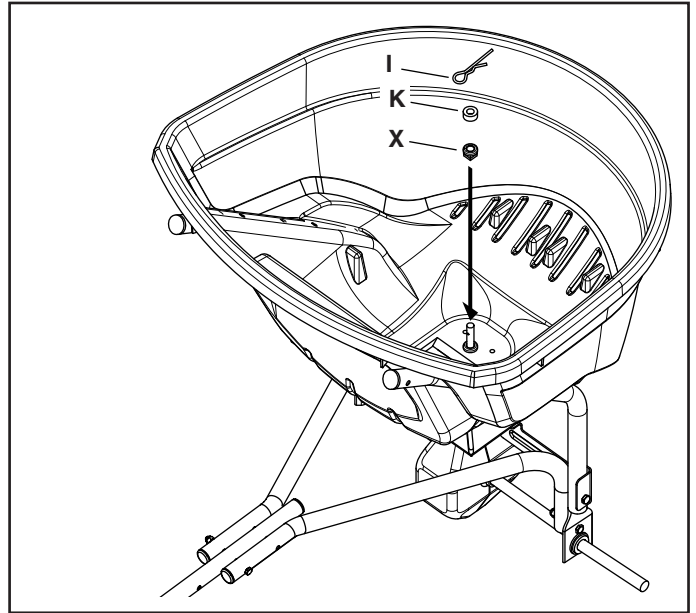

FIGURE 7
STEP 7: (SEE FIGURE 7)
- Slide the hopper bushing (X) onto the spreader shaft and insert it into the bottom of the hopper.
- Slide the spacer (K) onto the spreader shaft.
- Install the agitator hairpin (I) in the spreader shaft.